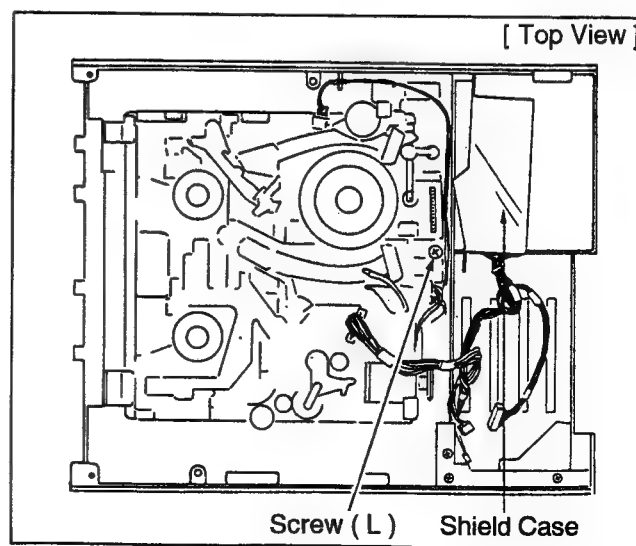

Figure D13-1
1. Unscrew a screw (L) on the Head Amp Shield Case and carefully remove the Head Amp C.B.A..
2. Unscrew the 2 screws (M) on the Mechanism Unit and carefully remove the Mechanism Unit. (Figure D13-1 and D13-2.)